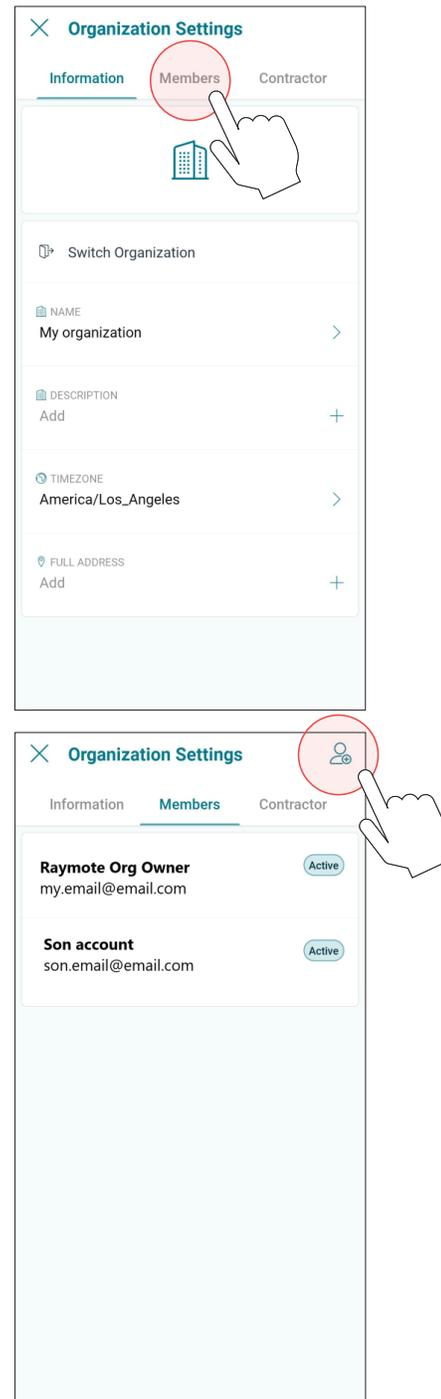

Figure 107. Invite a New Member to your Organization
4. Click on the top-right icon to [Invite a New Member]. See Figure 107 and Figure 108.